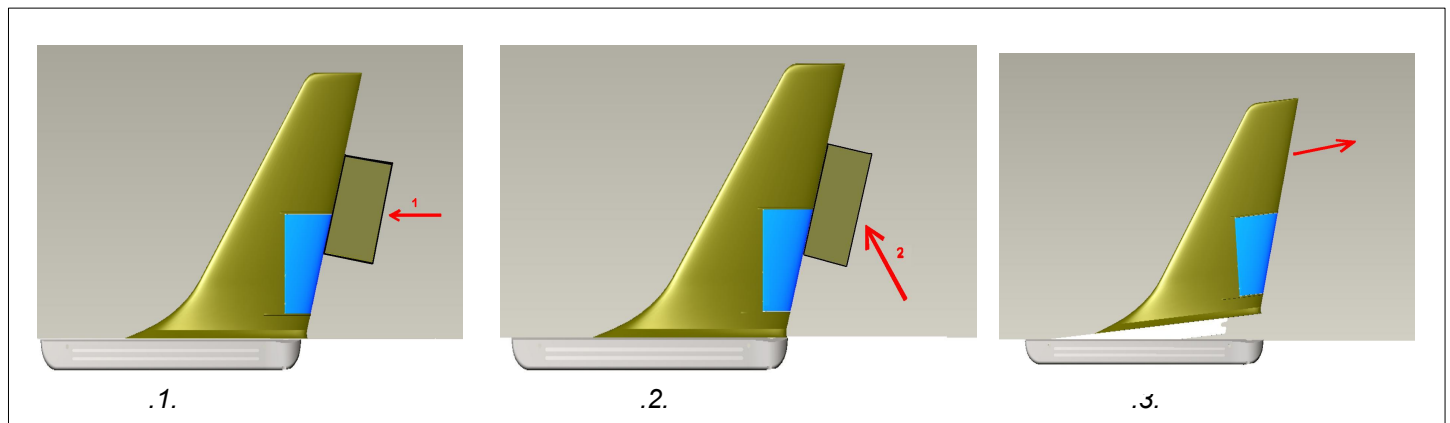

Fig.4 Fin removal
7. Keep a block of wood or teflon on the trailing edge of the fin in area next to the hull (figure 4 - drawing 1)
8. Gently with a hammer tap on the Teflon, making the fin slide about 1 cm towards the bow and extract the rudder (Figure 4 - drawing 2)
9. Then lift the back of the fin a few degrees and pull aft (figure 4 - drawing 3)